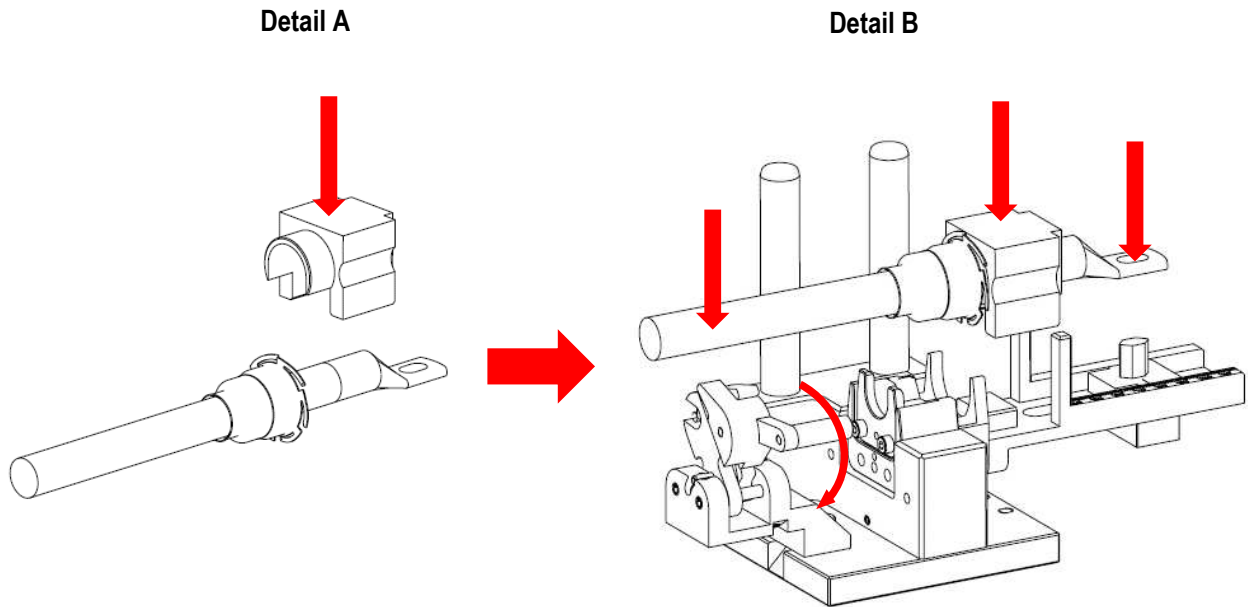

Figure 5
2. Place the tooling over the prepared cable, open the wire clamp by pressing down on the lever and position the prepared assembly onto the Terminal Locator (see Figure 5, Details A and B):